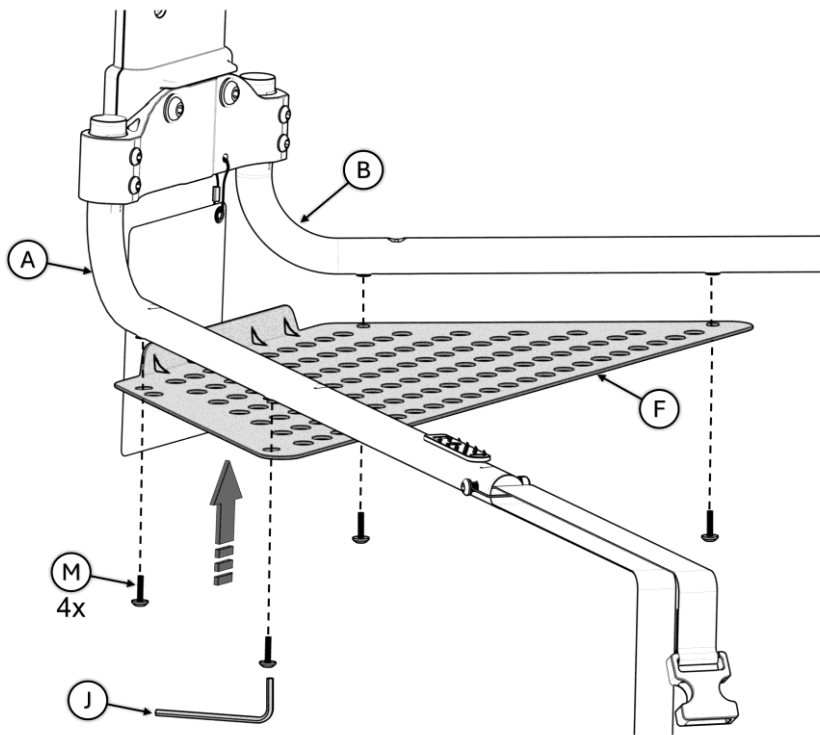

FIGURE 11
11. Secure Safety Guard F to Legs A and B with Bolts M (4x) using Tool J, as shown in FIGURE 11.